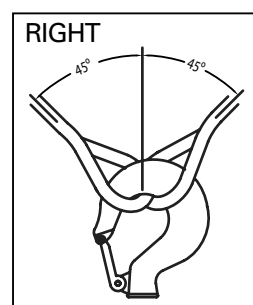

Figure 5
- When placing two (2) sling legs in hook, make sure the angle from the vertical to the outermost leg is not greater than 45 degrees, and the included angle between the legs does not exceed 90 degrees (See Figure 5). For two legged slings with angles greater than 90 degrees, use an intermediate link such as a master link or bolt type shackle to collect the legs of the slings. The intermediate link can be placed over the hook to provide an in-line load on the hook. This approach must also be used when using slings with three or more legs.